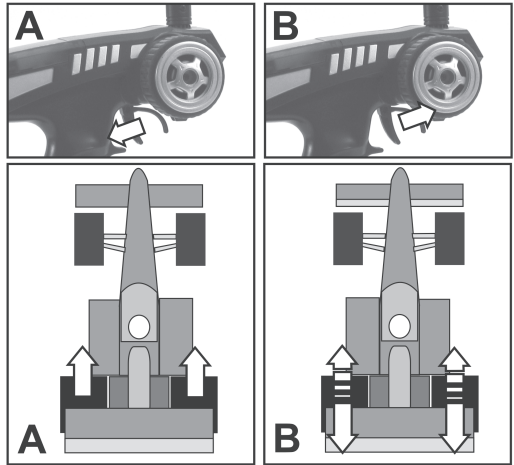

Figure 13
When you move the operating lever for the drive function (see figure 1, item 3) towards the handle to the stop, the model must accelerate (see figure 13, sketch A).
If you press the lever forwards, the model must decelerate or switch to reverse driving (see figure 13, sketch B).
If your model's drive reacts opposite to the indication in figure 13, use the drive function reverse switch (see figure 2, item 6) to switch the effective direction of the operating lever.